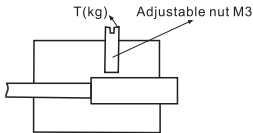

Fig. 18
2. Mounting for cylinder type : Adjusting torque range 2-4kgf-cm. (Fig. 18)